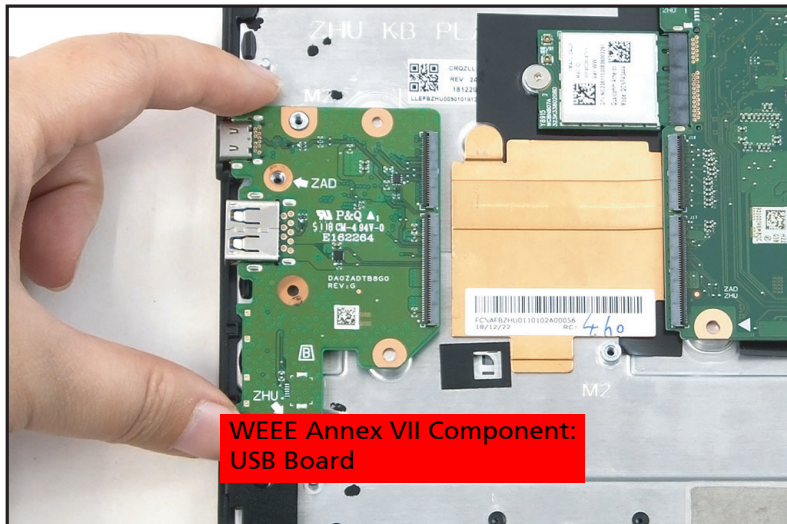

Figure 1-25. USB Board Removal
5. Remove the USB board from the top assembly (Figure 1-25).